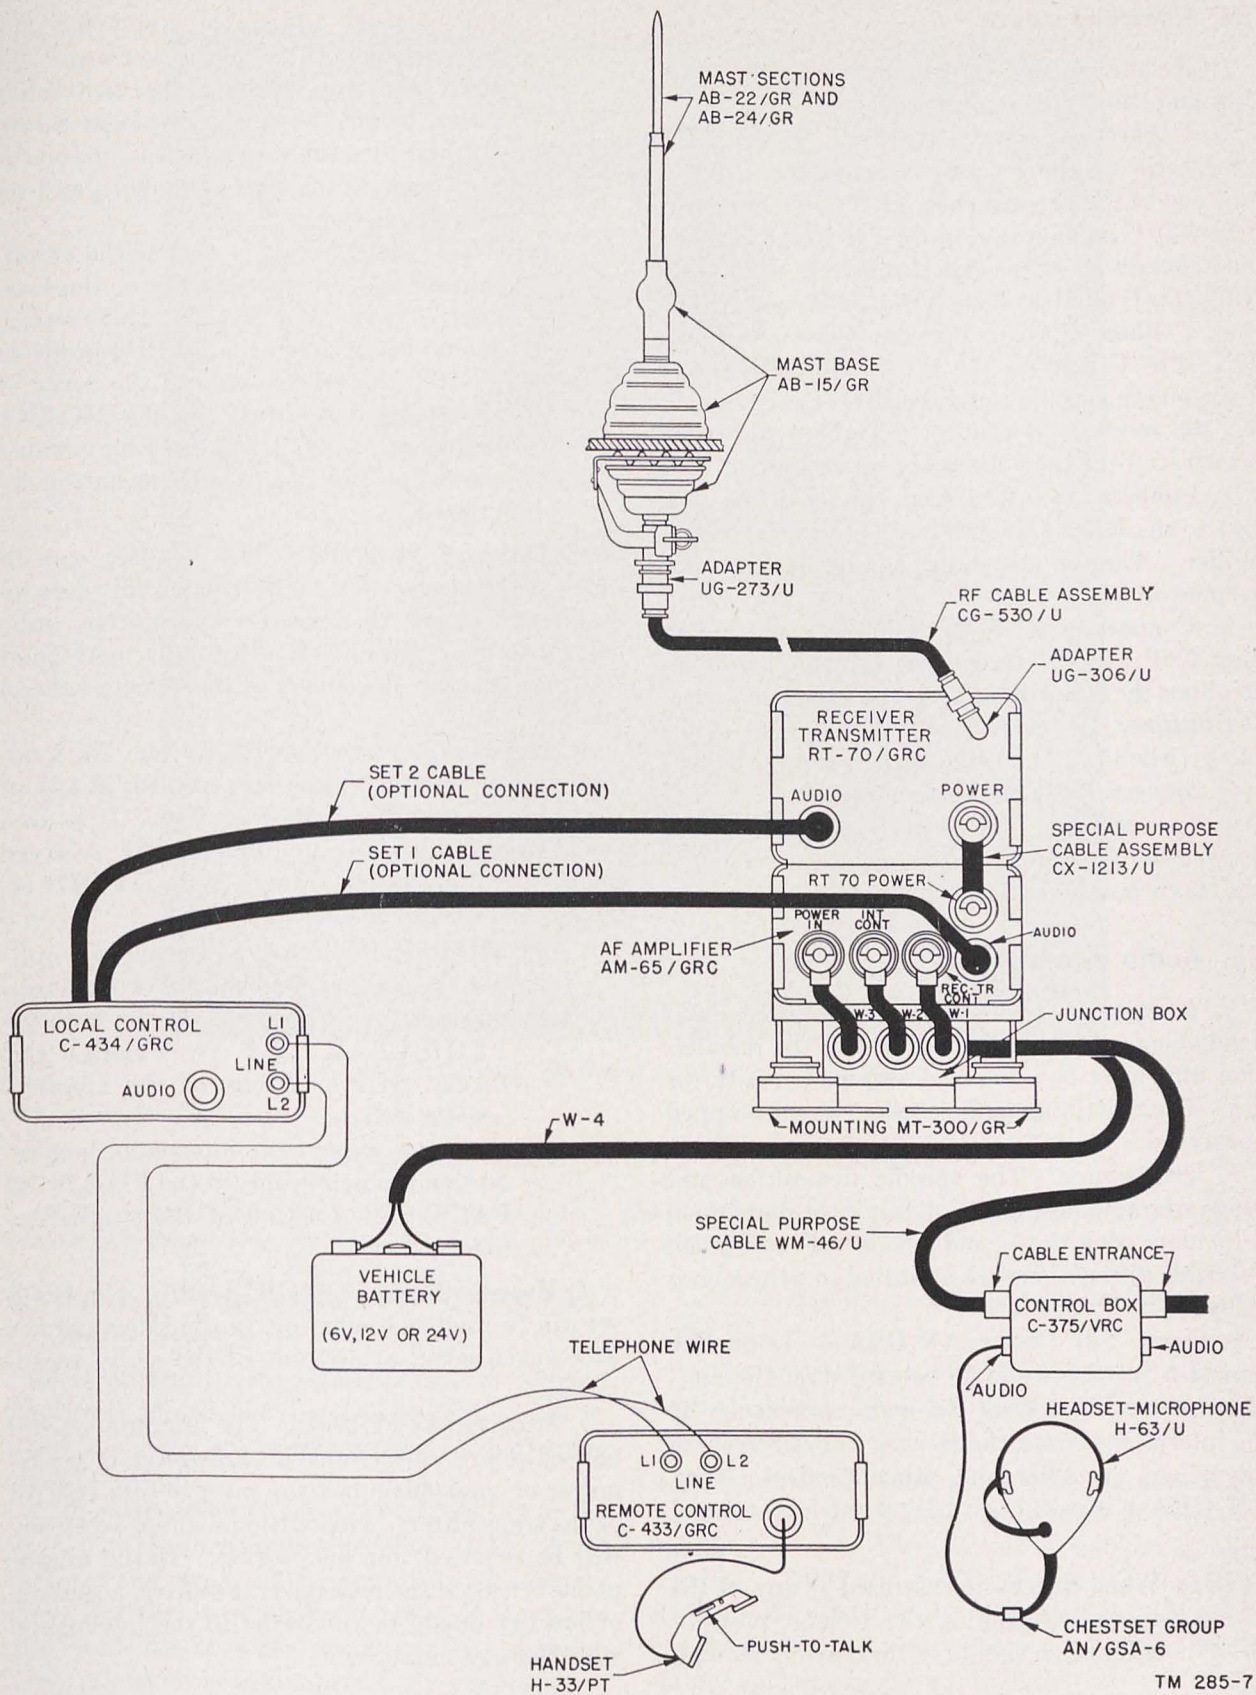

Figure 24. System cordage diagram.
Caution: The plug end of cable W-3 (fig. 24) will be *hot* after the battery connection has been made. Use care in handling.
29. Antenna Mast Sections (fig. 24)
Make the system interconnections outlined below and illustrated on figure 24.
a. Connect Adapter UG-306/U to the ANT receptacle on the receiver-transmitter. Connect one end of the antenna cable (RF Cable Assembly CG-530/U as indicated in fig. 24) to the adapter, and connect the other end of the cable to Adapter UG-273/U on Mast Base AB-15/GR (par. 28).
c. Connect cable W-1 from the mounting (fig. 24) to the REC-TR CONT receptacle on the amplifier. Tighten the screw handle on the cable connector.